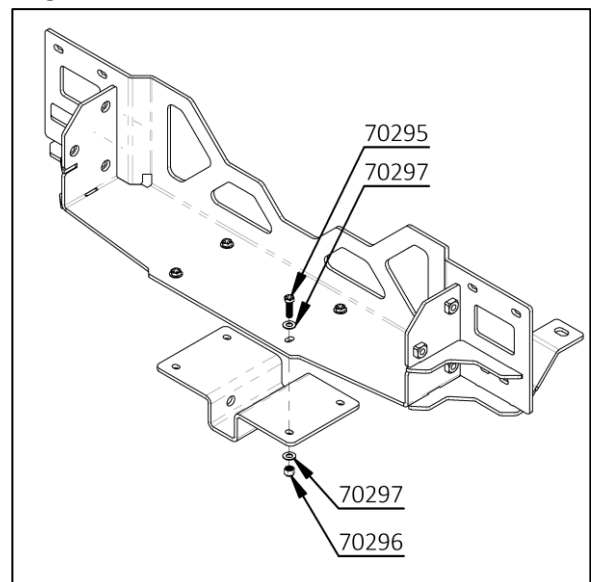

Figure 12: Hitch Receiver Install (3/8" Hardware)
15. ☐ Attach the STEEL WINCH RECEIVER to the underside of the WINCH CRADLE using the 3/8 hardware already used to attach the receiver. See Figure 12.